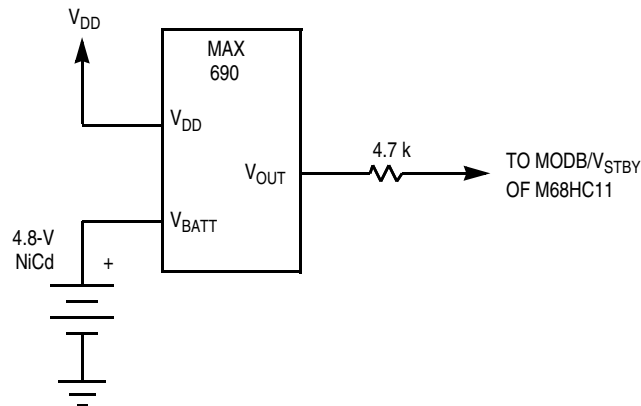

Figure 2-8. RAM Standby MODB/ V_{STBY} Connections
2. In the second method, the MODB/ V_{STBY} pin can supply RAM power from a battery backup or from a second power supply. Figure 2-8 shows a typical standby voltage circuit for a standard 5-volt device. Adjustments to the circuit must be made for devices that operate at lower voltages. Using the MODB/ V_{STBY} pin may require external hardware, but can be justified when a significant amount of external circuitry is operating from V_{DD} . If V_{STBY} is used to maintain RAM contents, reset must be held low whenever V_{DD} is below normal operating level. Refer to Chapter 5 Resets and Interrupts.